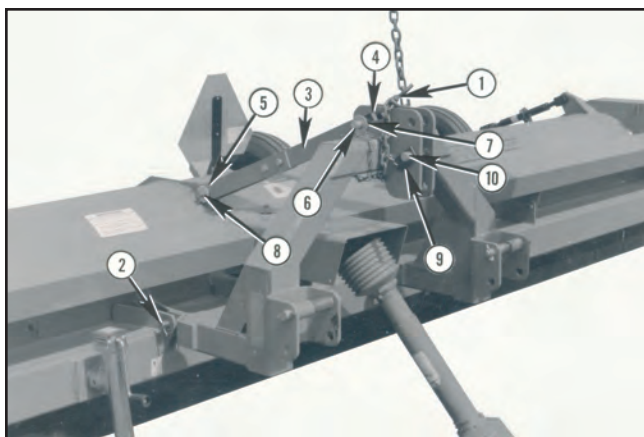

FIGURE 113
It is easiest to install the trailing PTO AFTER completing the trailing hitch installation. It is easiest to install the 3 point PTO BEFORE completing the 3 point hitch installation. Both PTO's are installed the same; however, Figure 113, page 48 shows only a 3 point PTO. See Page 18, Figure 49 for Trailing CV PTO.
Insure the hoist chain (1) is SECURELY hooked around top link side plates as shown. This provides the best balance for easier installation. See Figure 113.